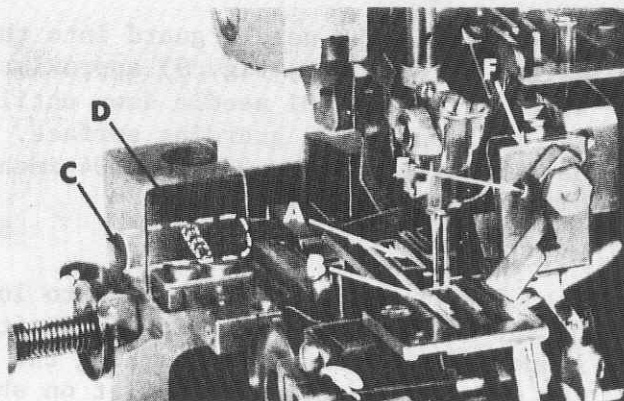

Fig. 14
Assemble main and differential feed dogs (A, B, Fig. 14).
After upper knife has been set for proper width of trim, screw (E, Fig. 14) should be tightened to lock upper knife holding block (F) in place. This will simplify re-setting when upper knife is replaced.